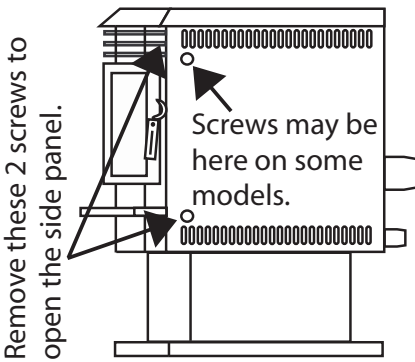

Figure 24. Holes for screws on the right side panel. Figure 25. Oil ports on a circulation fan.
- e. Oil the circulation fan motor. To oil the motor bearings, the right hand side panel must first be opened. This is done by removing the 2 screws near the front of the stove as shown in Figure 24. Use a Robertson (square head) or Common (flat head) screwdriver to remove the screws. You will now be able to swing the panel open and access the circulation fan. There are 2 oil ports located on the top of the motor, one near the end and one near the fan housing as shown in Figure 25. There may be rubber plugs in one or both of these oil ports. These plugs must be removed prior to and replaced after oiling. Place a few drops of a light oil (i.e. sewing machine oil or a 3 in 1 oil) in each port.